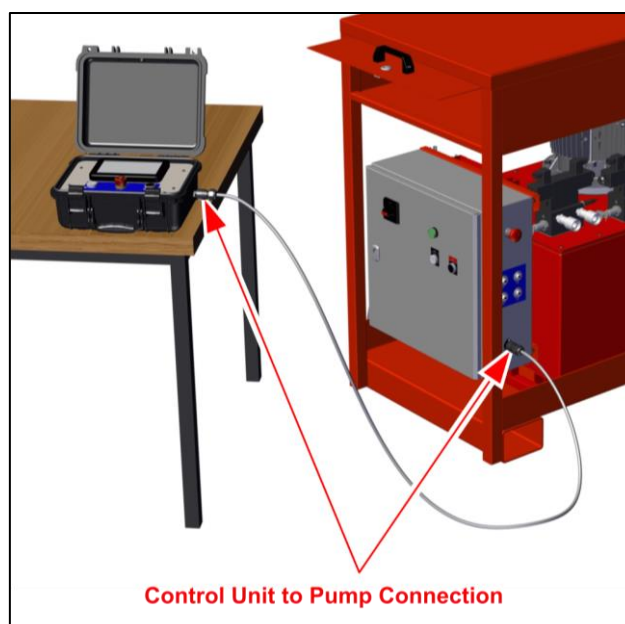

Figure 5.8: Control Unit Connection
- Remove the control unit from its storage compartment and place it on a suitable work surface. Connect the control unit to the electrical control box with one of the 2 (different lengths) control unit cables provided. (See figure 5.8)